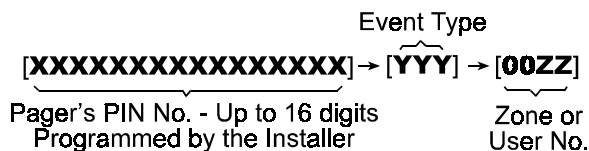

Figure 7. Pager Message Structure
- The message transmitted by the PowerMax to the pager is actually a string of digits, as exemplified in Figure 7 below.